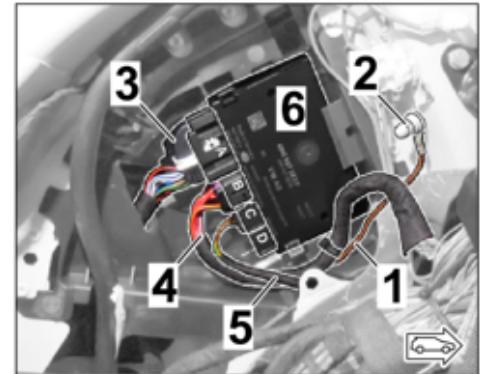

Figure 14
- 2.5 Install cable ring eyelet A6 at the ground pin MB25 ⇒ *Figure 14 -2-*.
- 2.6 Connect plug connections for connector A/B/C to the trailer hitch control unit ⇒ *Figure 14*.